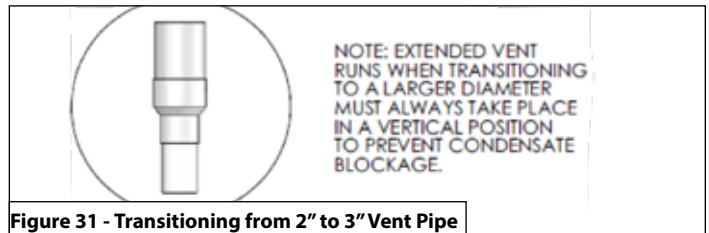

Figure 31 - Transitioning from 2" to 3" Vent Pipe
**NOTE: INCREASING VENT SIZE: TRANSITIONING FROM 2" TO 3" VENT PIPE MUST ALWAYS TAKE PLACE IN A VERTICAL POSITION TO PREVENT CONDENSATE BLOCKAGE.** See Figure 31.